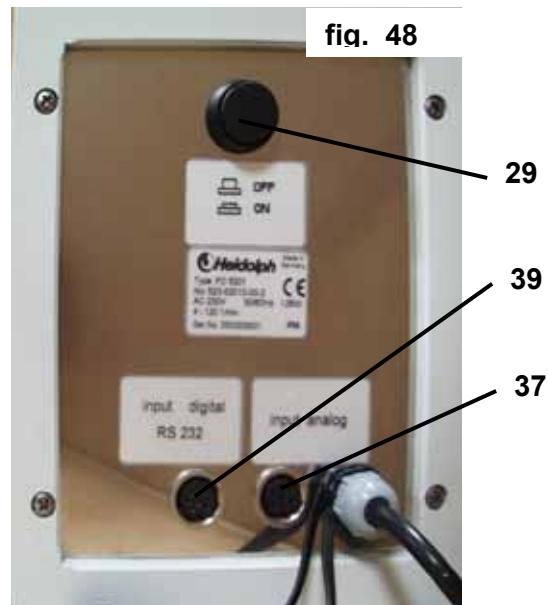

fig. 48
9. PD 5201, PD 5206 (figs. 48, 49)
9.3.1. How to program particular pump heads (figs. 48,49)